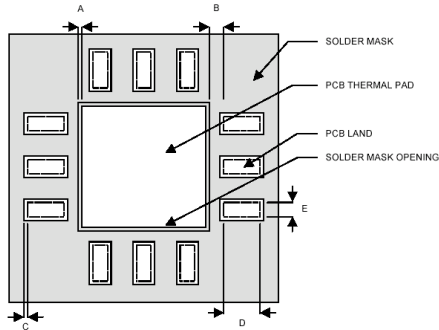

Figure 19. PCB Land and Solder Mask Recommendations
1. PCB land and solder masking recommendations are shown in Figure 19.